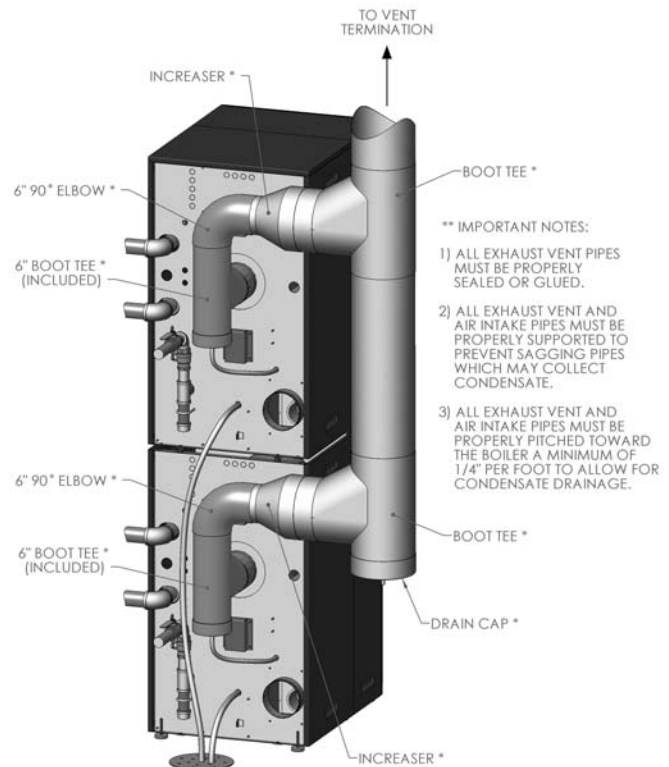

Figure 3.11: Multiple Boilers with Common Venting
2. Figure 3.11 shows two *PUREFIRE*® boilers connected with a common vent system.